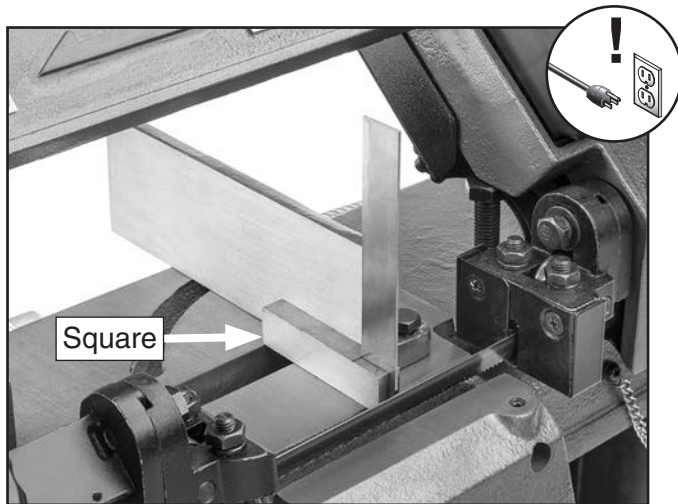

Figure 59. Square positioned against vise and blade to check blade squareness.
- Put square against face of vise and move it over to blade (see **Figure 59**).